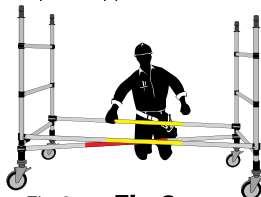

Fig.2
5. Check that the scaffold base is square-See Fig.2